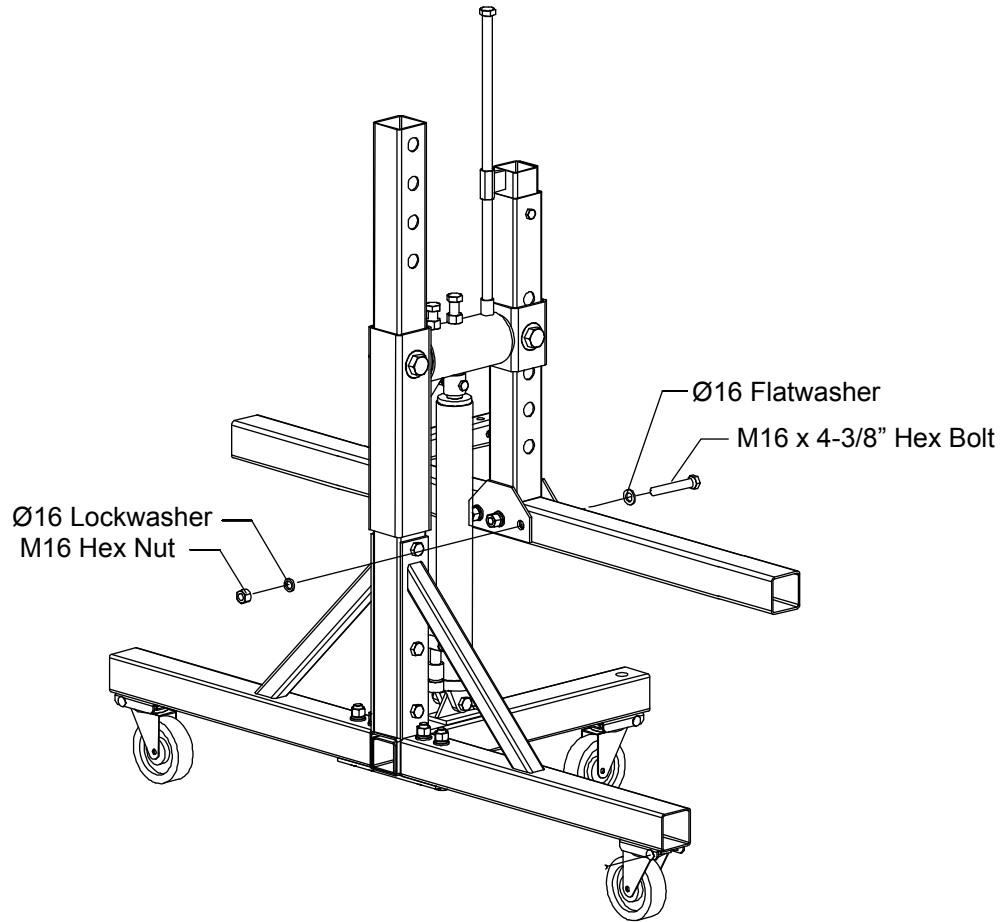

FIG. 2
2. Install Horizontal Swing Arms as shown, Fig. 2.